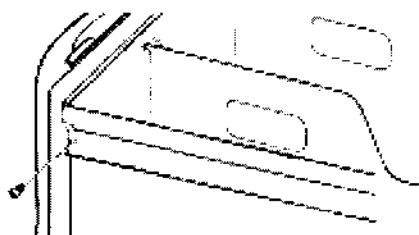

Fig. 1-3
1. Open the pedestal drawer. Remove the envelope taped inside the drawer. This envelope contains four (4) #12 x 5/8" (1.6 cm) hex head sheet metal screws that will be used in Steps 4 and 5.
2. Remove the Phillips head screw from both drawer sides and set the aside. (Fig. 1-3) Remove the drawer and set it aside. Push the slides back into the pedestal.